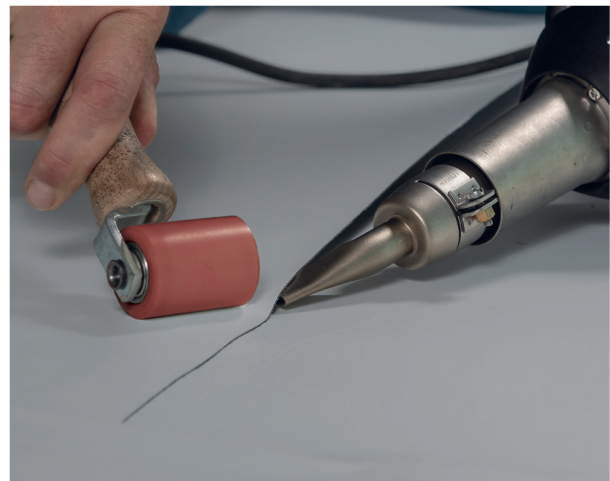

Figure 14. Manual welding with a hand-held welder and silicone roller.
- 3 Final-weld: use the pressure roller parallel to the nozzle (Figure 14, below) and roll it with light pressure beyond the seam.